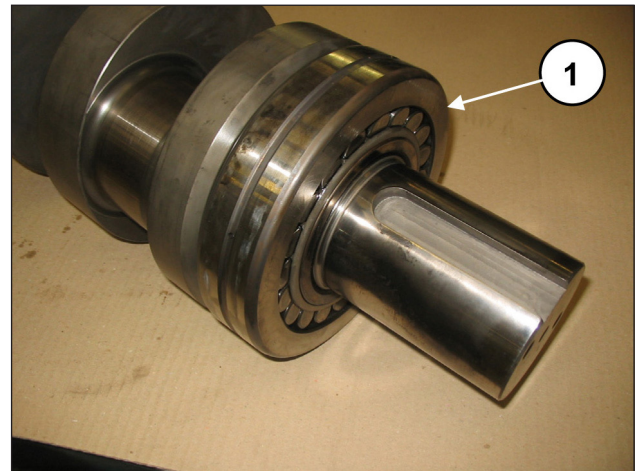
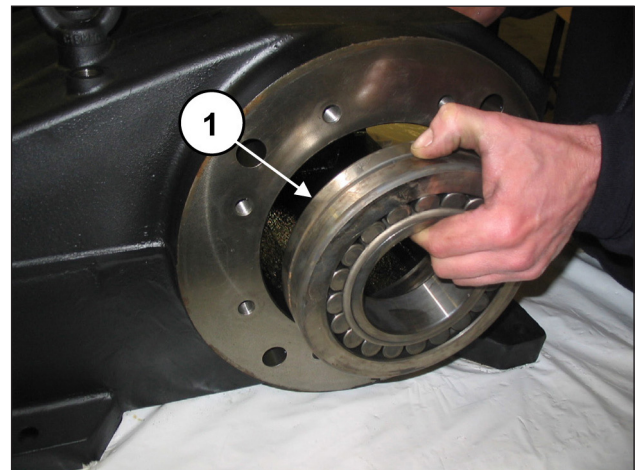

Fig. 41
Fig. 42
Pre-assemble the bearing, PTO side, on the shaft to the end stroke (pos. ①, Fig. 41) and mount the bearing on the opposite side on the casing (pos. ①, Fig. 42).
The bearing in Fig. 42 has a tapered internal ring. Check that the taper goes from the outside inwards to allow inserting the bush.